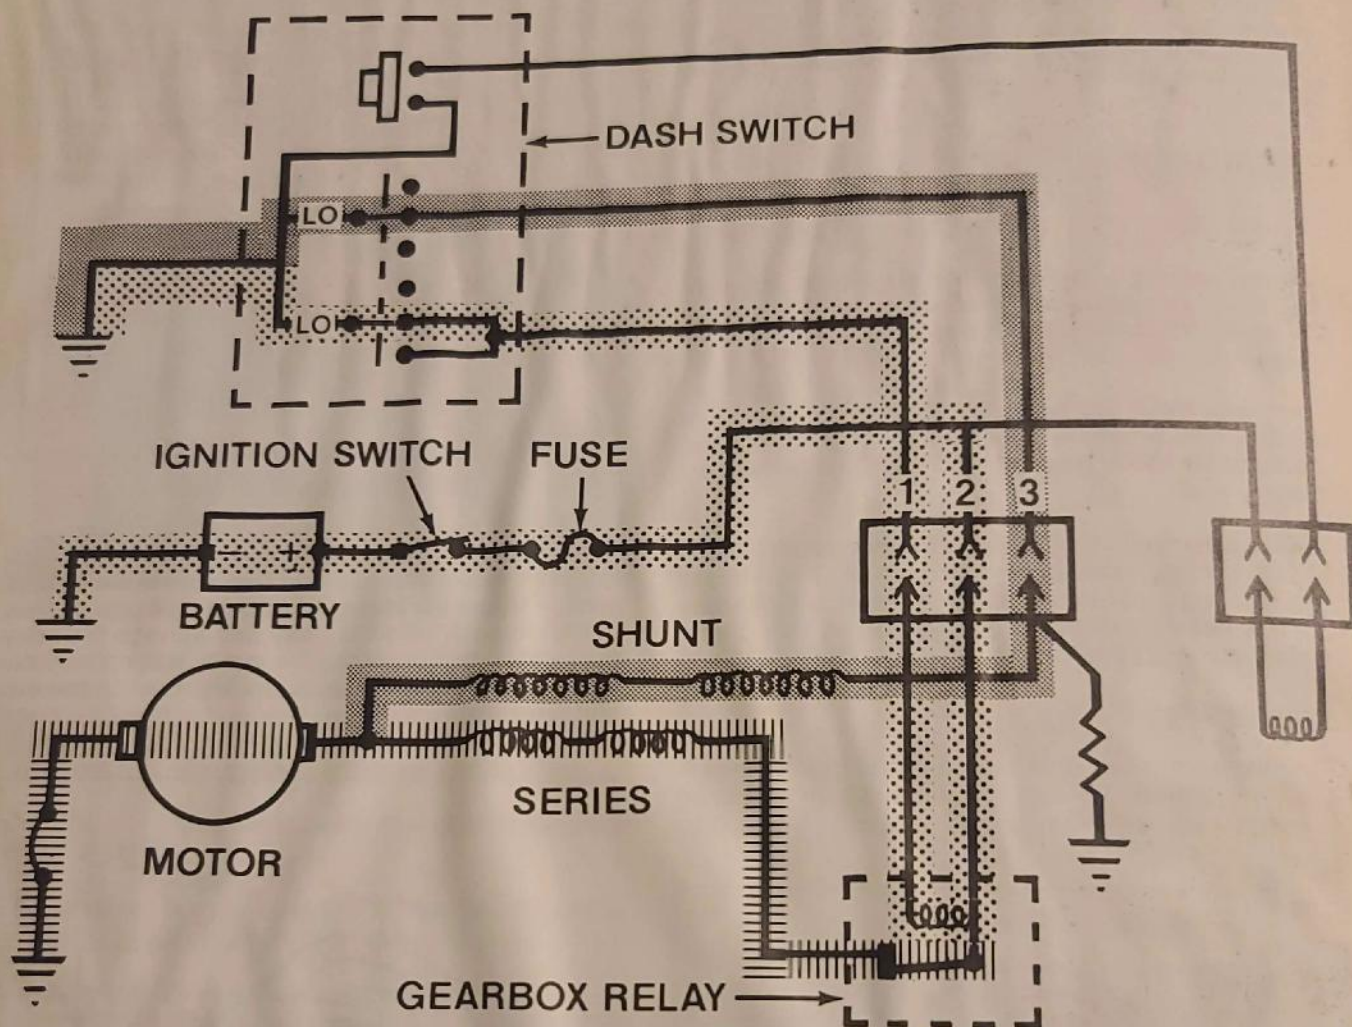
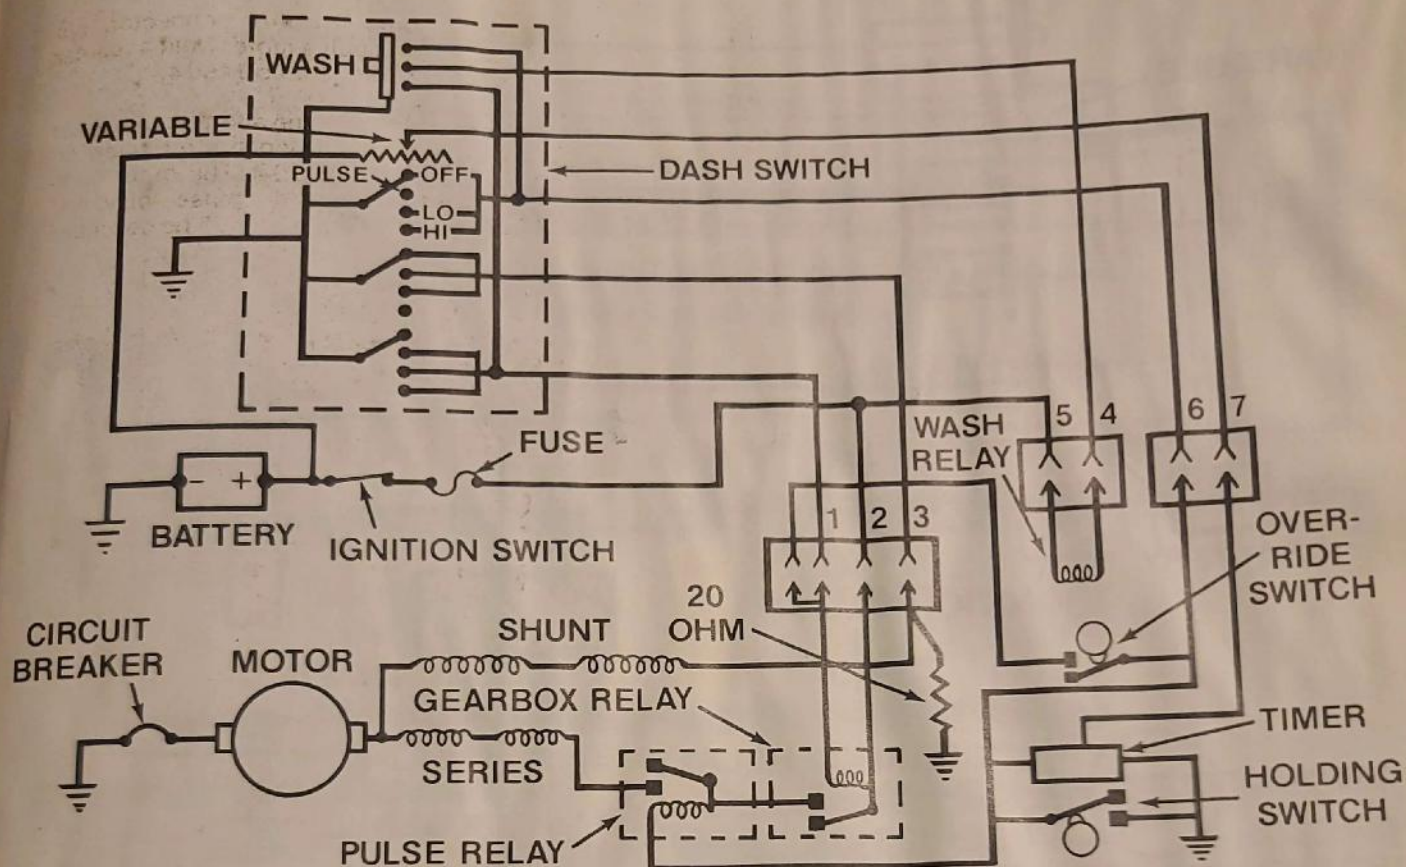
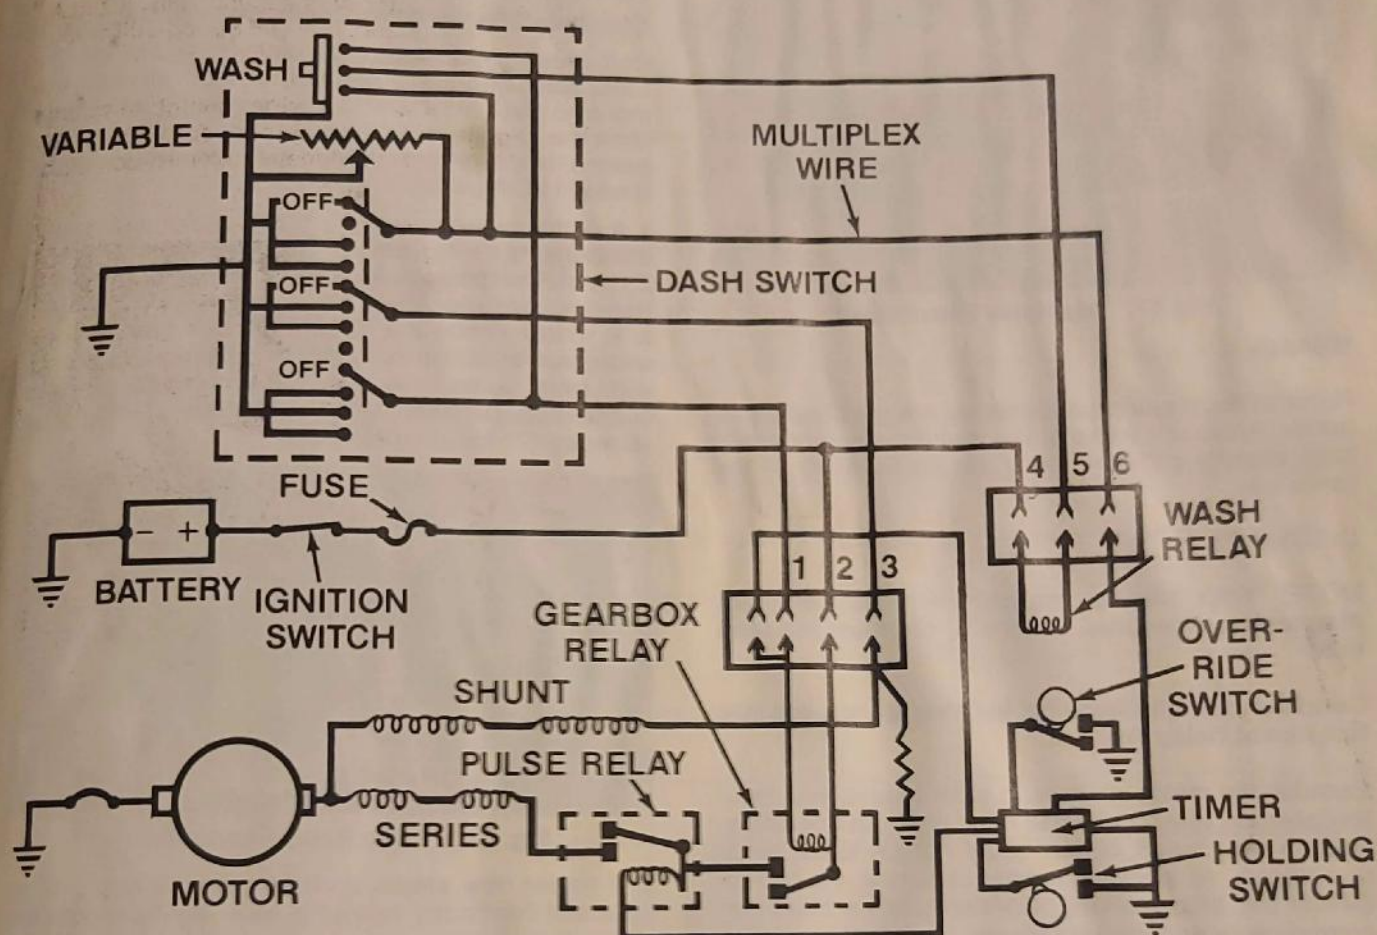

Fig. 38. Low Speed
Fig. 51. Modified Pulse Motor Schematic
Fig. 56. Multiplex Pulse Motor Schematic
Refer to figure 38. The control switch provides a ground path for the gearbox relay coil. The coil closes the relay and provides current to the motor. The series
Refer to figure 51. If you compare this circuitry with figure 38, you'll see that the modified pulse motor is wired similarly to the round motor. Low and high speeds depend on the gearbox relay to supply current to the series field, shunt field and armature. But notice
the washer shuts off, the override switch opens. Refer to figure 51 and trace the override circuit for yourself.
5. If motor stops, check override switch (fig. 51 and 54). It is probably stuck shut, providing full-time ground. Timer mounting screw may be loose, causing cam to miss contact with override switch. Tighten screw to 14 inch-pounds.
Refer to figure 56. If you compare this diagram with figure 51, you'll see there are some similarities with the modified pulse system. Low and high speeds are controlled by the series and shunt fields. Park is accomplished by the gearbox relay. Delay operation is controlled by turning the pulse relay on and off by the timer.